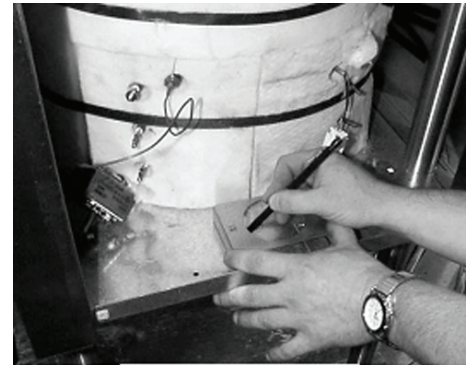

Figure 13
- A. Place speaker mounting bracket (item #8, page 4) on bottom panel at approximately 3/8" from front lip and mark hole pattern with pencil (see figure 13).